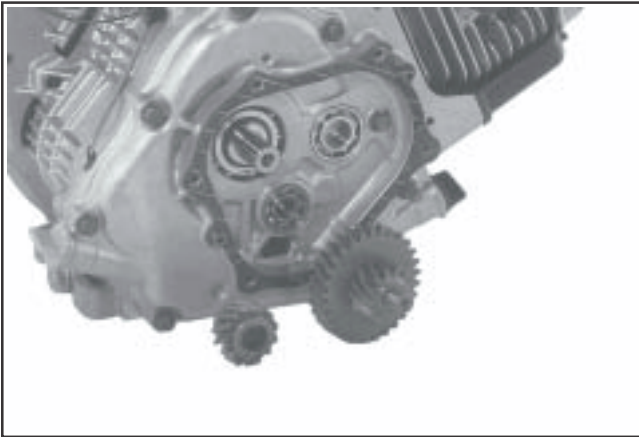

Figure 9-73. Removing Counter Gear and Crank Gear.
- Remove the counter gear from the closure plate. Remove the screw and washer securing the crank gear and slide the gear off of the crankshaft splines. See Figure 9-73.